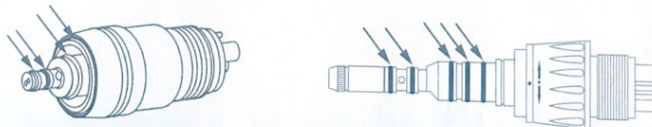

Fig. 11
- 1) Remove O-rings by hand. (Fig. 11)